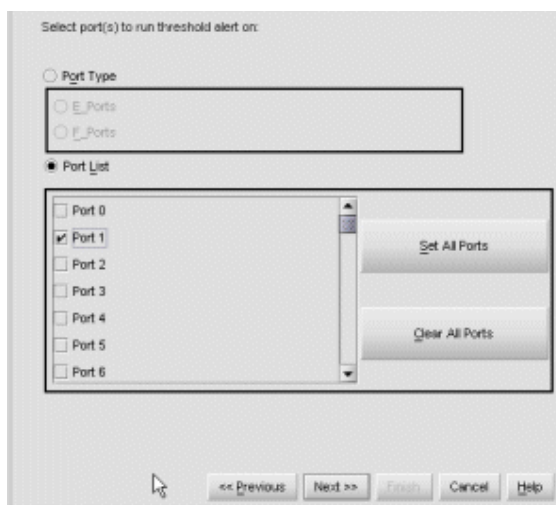

Figure 34: New Threshold Alerts dialog box—third screen
9. Click **Next**. A new screen displays for selecting ports for the alerts, as shown in Figure 34.